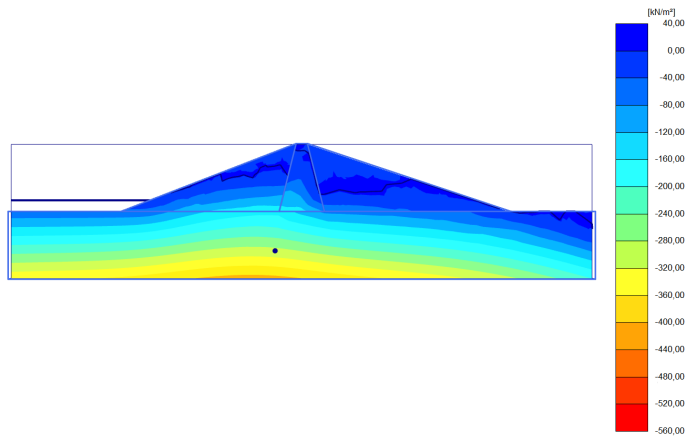

Figure 6.12 Pore water pressure distribution after slower drawdown (Phase\_2)
- The situation after slow drawdown of the reservoir level (Figure 6.12).